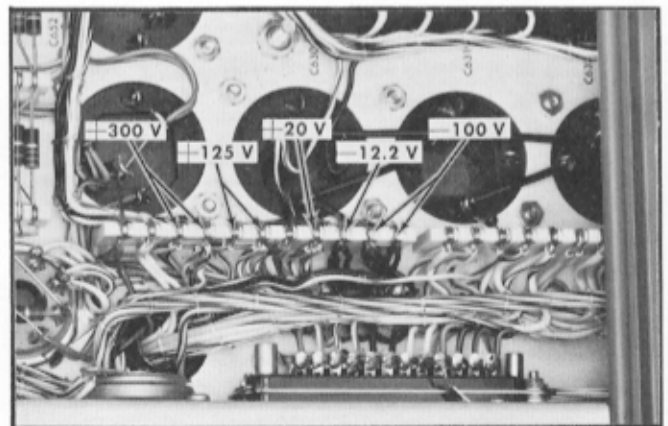
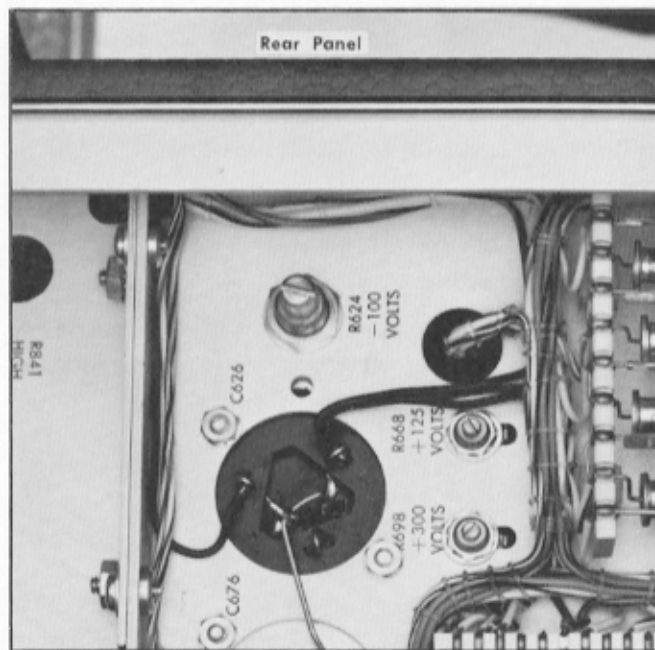
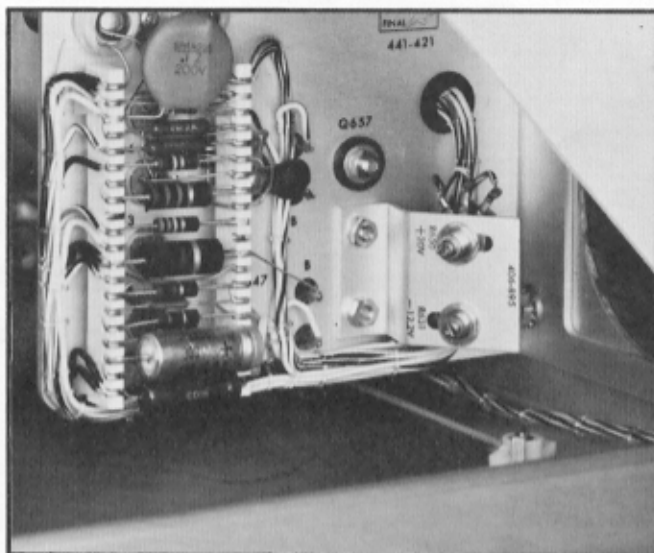

Fig. 5-3. Low-voltage power supply test points, steps 1 through 5.
Fig. 5-4. Upper chassis low-voltage power supply adjustment locations.
Fig. 5-5. Right side low-voltage power supply adjustment locations.
a. Set the autotransformer output to 117 volts (234 volts). Connect the precision voltmeter between the -100-volt test point and ground (see Fig. 5-3). If the voltage is outside the limits of -99 to -101 volts, adjust the -100 VOLTS control, R621 (see Fig. 5-4).
a. Set the autotransformer output to 117 volts (234 volts). Connect the precision voltmeter between the +125-volt test point and ground (see Fig. 5-3). If the voltage is outside the limits of +123.75 to +126.25 volts, adjust the +125 VOLTS control, R668 (see Fig. 5-4).
a. Set the autotransformer output to 117 volts (234 volts). Connect the precision voltmeter between the +300-volt test point and ground (see Fig. 5-3). If the voltage is outside the
limits of +297 to +303 volts, adjust the +300 VOLTS control, R698 (see Fig. 5-4).
a. Connect the precision voltmeter between the -12.2-volt test point and ground (see Fig. 5-3). If the voltage is outside the limits of -12.078 to -12.322 volts, adjust the -12.2 VOLTS control R631 (see Fig. 5-5).
a. Set the autotransformer output to 117 volts (234 volts). Connect the precision voltmeter between the -20-volt test point and ground (see Fig. 5-3). If the voltage is outside the limits of +19.80 and +20.20 volts, adjust the +20 VOLTS control, R650 (see Fig. 5-5).